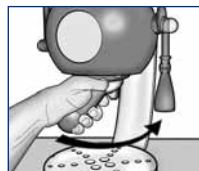

Fig. 4
- Insert the filter holder into the proper seating, turning it 40-45° clockwise until it clicks into place (Fig. 4).